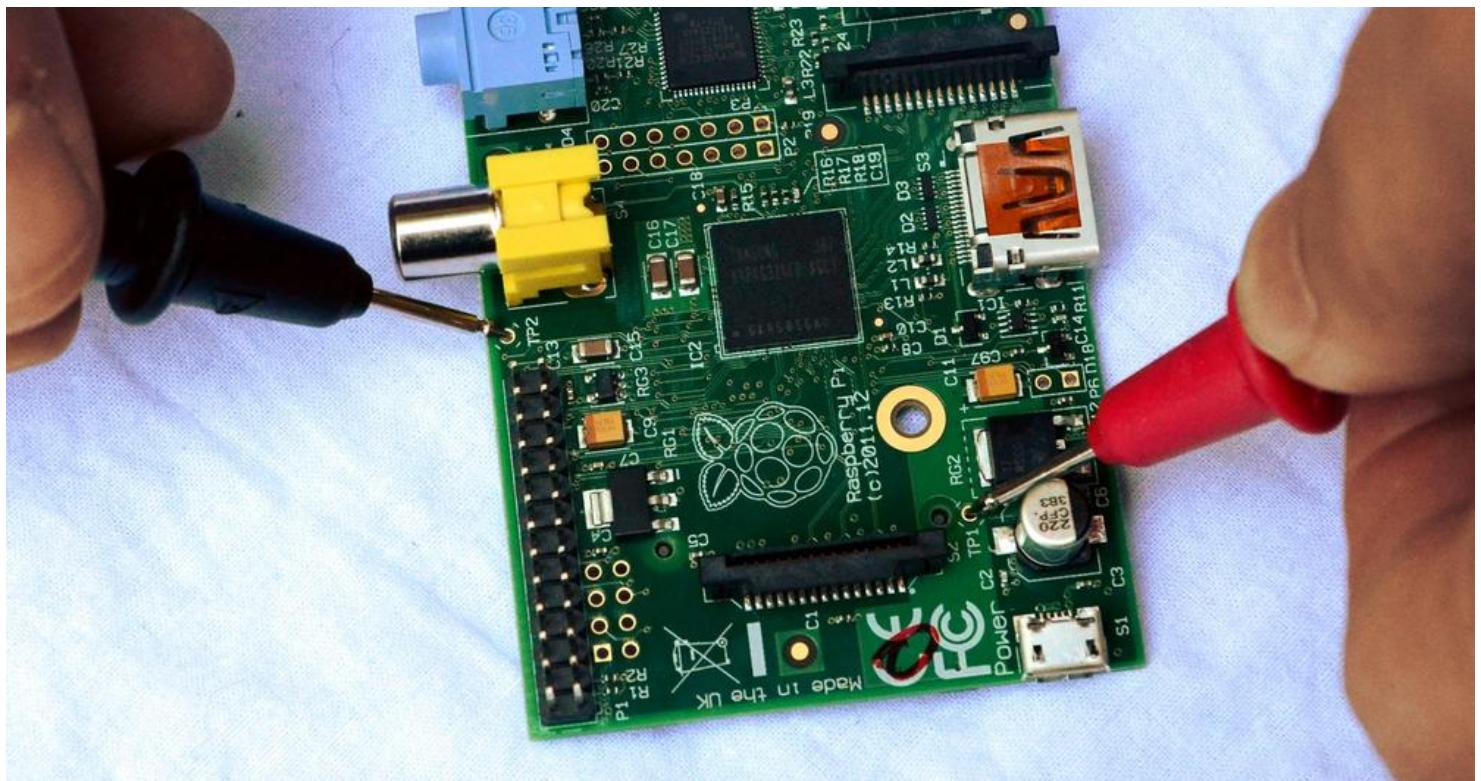

Figure 1-15. Testing the voltage
3. Touch the red lead of your multimeter to TP1 and the black lead to TP2 (as shown in Figure 1-15).